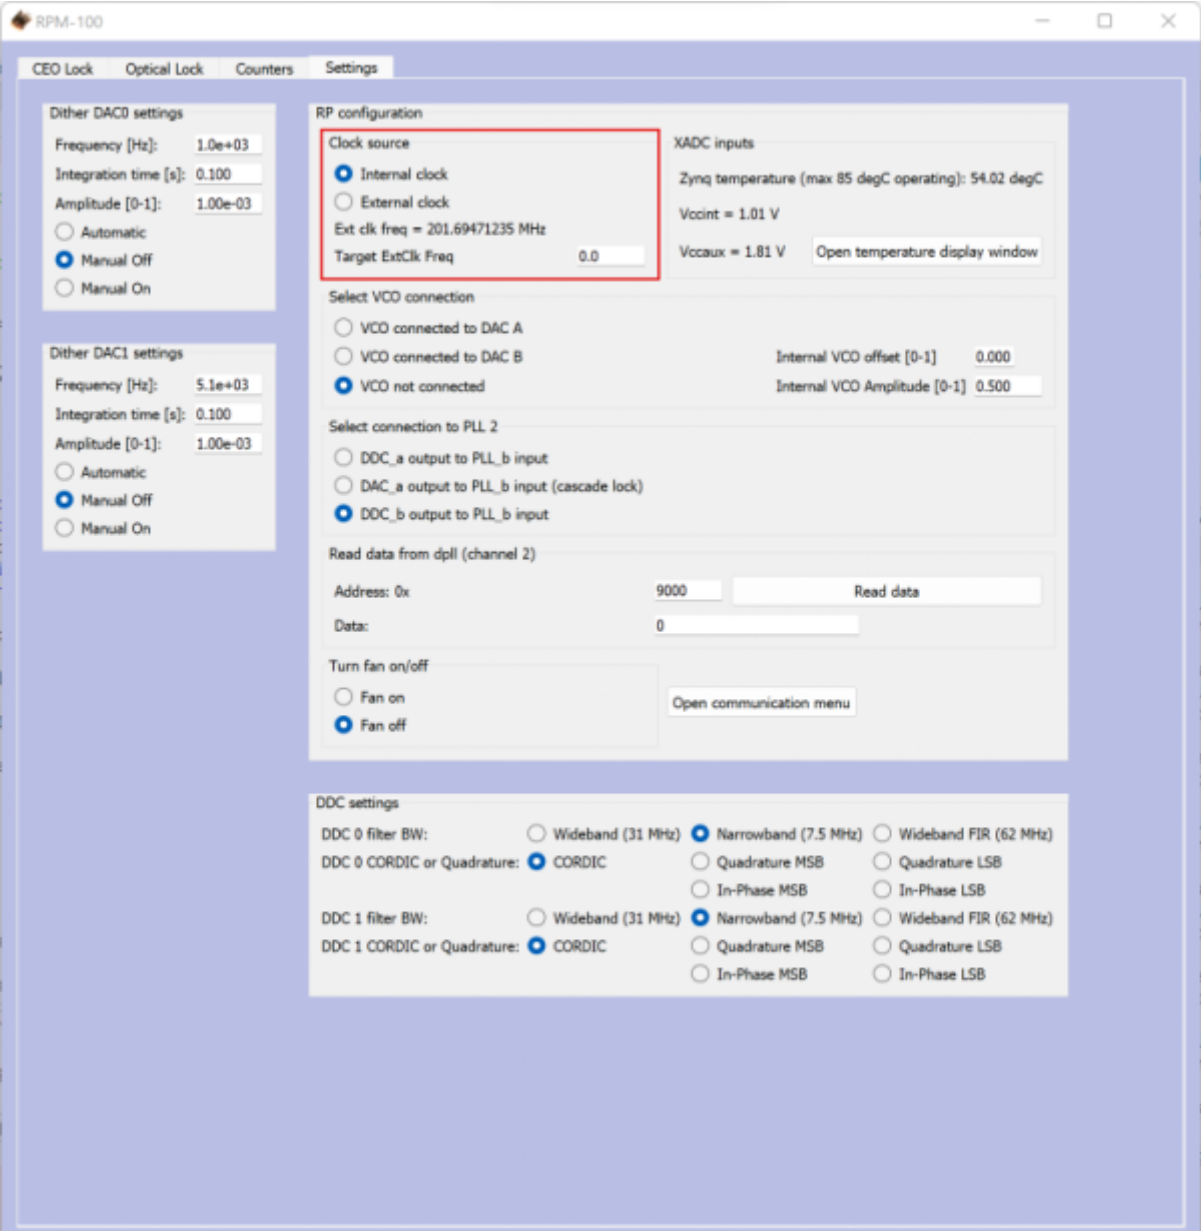

Fig. 8: Settings Tab
- Navigate to the "Settings" tab and select the appropriate clock signal to be used (figure 8). If using an external clock, type the frequency (in Hz) of your reference signal.